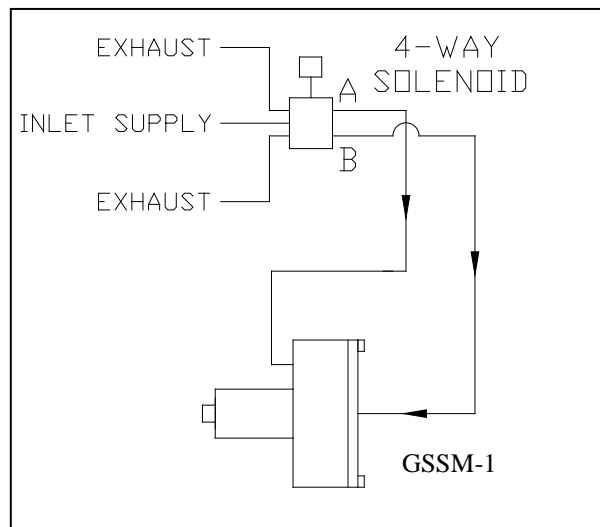

FIGURE 2
- 2.2.6 Connect the normally closed port (stamped B or NC on most solenoids) of the 4-way solenoid to the top of the double-acting piston motor with $\frac{3}{8}$ " stainless steel tubing (see Figure 2).